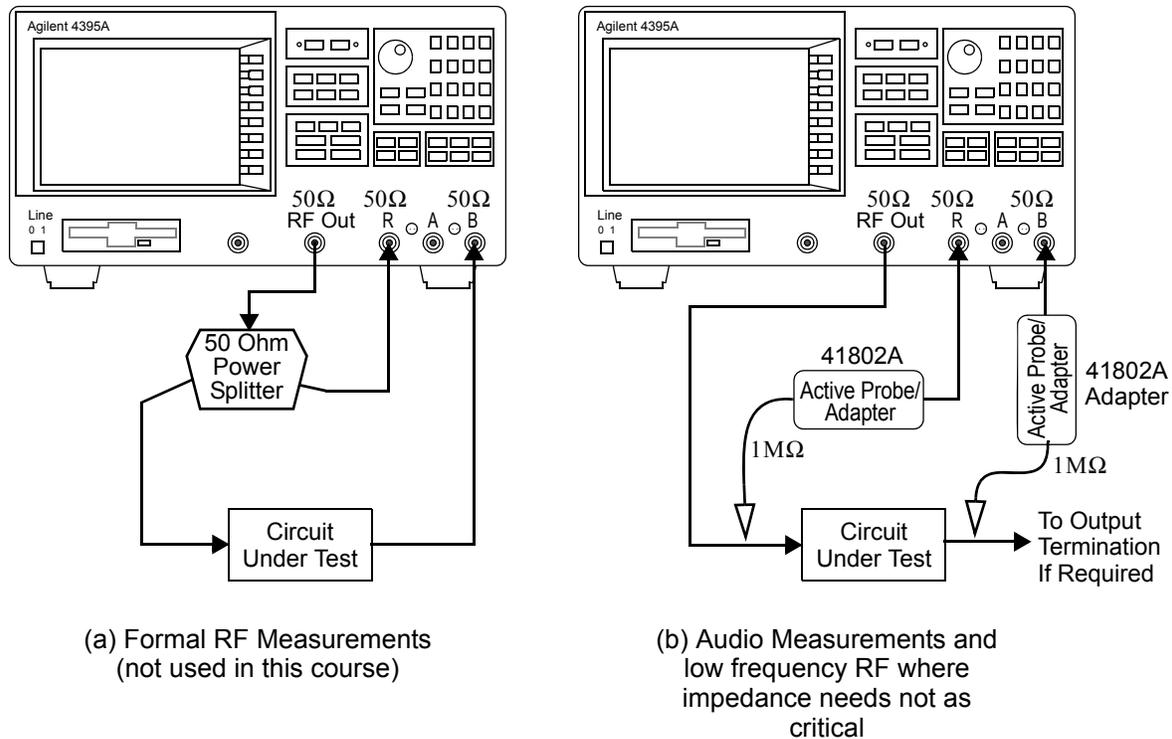

Figure 2: Agilent 4395A transmission measurement test setups
The front panel signal ports of the 4395A are designed for 50 ohm impedance level measurements (source and load resistances). Typical radio-frequency (RF) transmission measurement test setup are shown in Figure 2. For this course you will use the (b) configuration, since the circuit you test are below 100 MHz and the impedance levels are most often well above 50Ω .